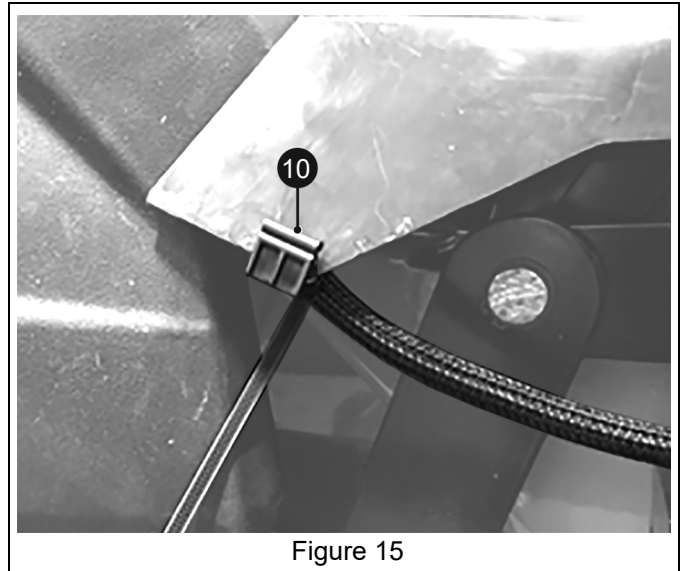

Figure 15
7. Route actuator harness under rear of height-of-cut adjustment dial cover. Install second EC23 clip (item 10) on bottom rear edge of cover. Secure harness with clip cable tie. Ensure that harness has sufficient distance from deck lift linkage. See Figure 15.